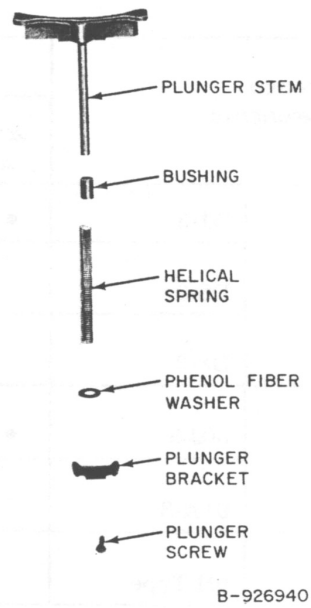

Fig. 9—Plunger Assembly
**3.12** When replacing plunger assembly, the phenolfiber washer must be placed on the plunger stem prior to the plunger bracket (Fig. 9).